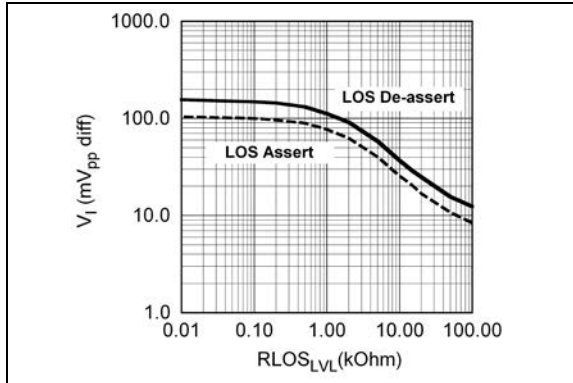

FIGURE 2-1: V_{ID} to Assert/De-Assert LOS vs. R_{LOSLVL} .
- 5:** See Figure 2-1 for a graph showing how to choose a particular $R_{LOS_{LVL}}$ for a particular LOS assert and its associated de-assert amplitude.